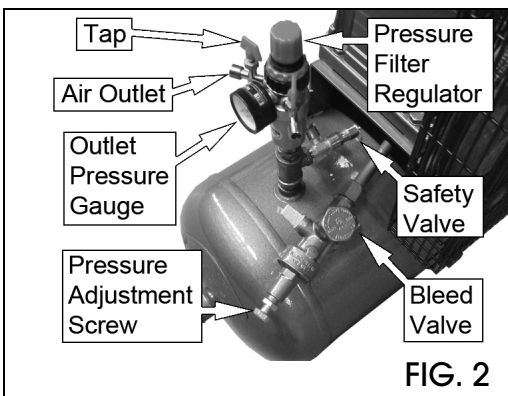

FIG. 2
2. **To ease starting, ensure there is no pressure in the pump outlet manifold by opening the Bleed Valve (See Fig.2).**
2. To ease starting, ensure there is no pressure in the pump outlet manifold by opening the Bleed Valve (See Fig.2 on page 8).